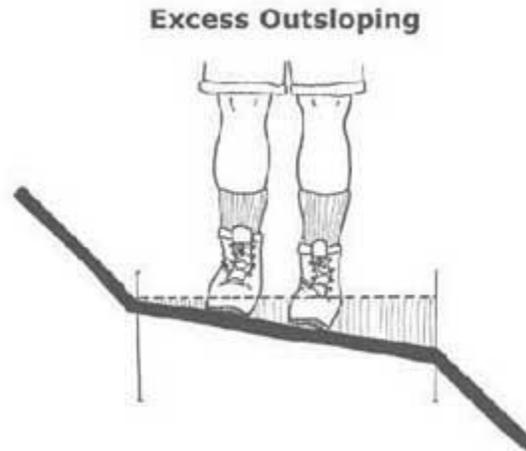

Figure 12--If your ankles start to roll, there is too much outslope.
- The best way to check the outslope is to walk the tread. If you can feel your ankles rolling downhill, there is too much outslope (Figure 12). The outslope should be barely detectable to the eye. If you can see a lot of outslope, it's probably too much. A partially filled water bottle makes a good level.